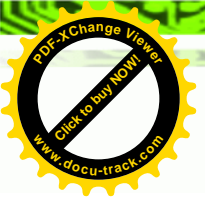

Figure 3-11: External Peripheral Device Connection
Step 2: Connect the cable from the external peripheral device to the corresponding connector of the UPC-V312-D525 (Figure 3-11).